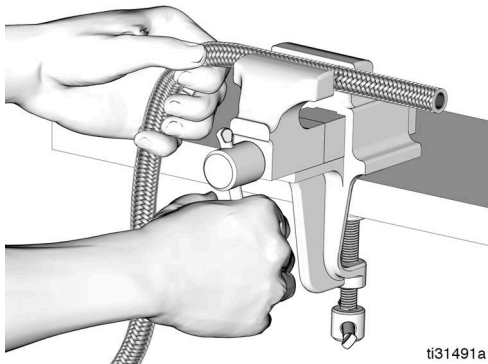

FIG. 60
1. Secure end of hose in a vise (FIG. 60).